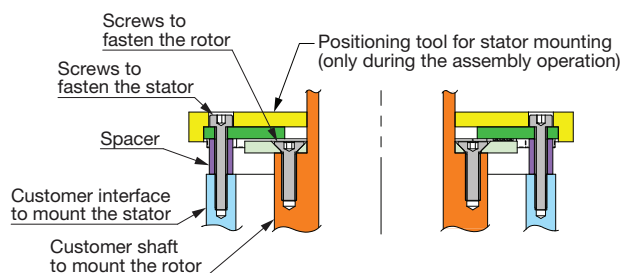

Fig. 4 - Case 1-2 (using positioning tool)
- To position the stator, we recommend using a specific positioning tool which reference the position according to the shaft, as shown in the illustration below (Fig. 4). The side of the stator with the electronic components should face the rotor. Then, fasten the stator to the customer interface using the recommended screws: M2 according to ISO 4762 (A4 stainless steel with recommended torque = $0.3 \text{ Nm} \pm 10 \%$)